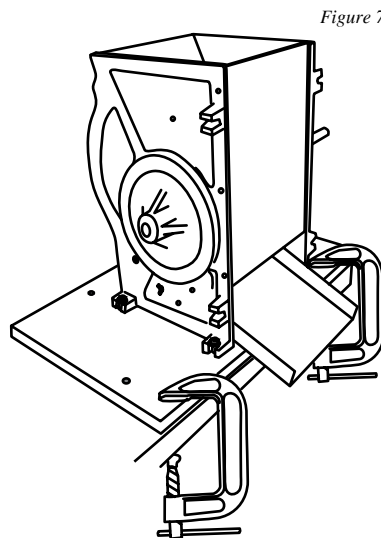

Figure 7
8. Secure the **Crusher** to the table with the two **C-Clamps** (Figure 7).